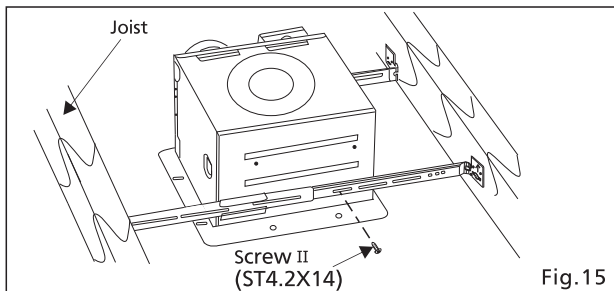

Fig. 15
3. Install the suspension bracket to joists by using long screws (ST4.2X20) (Fig. 14) and secure it to the fan body by using screw II (ST4.2X14) (Fig. 15)